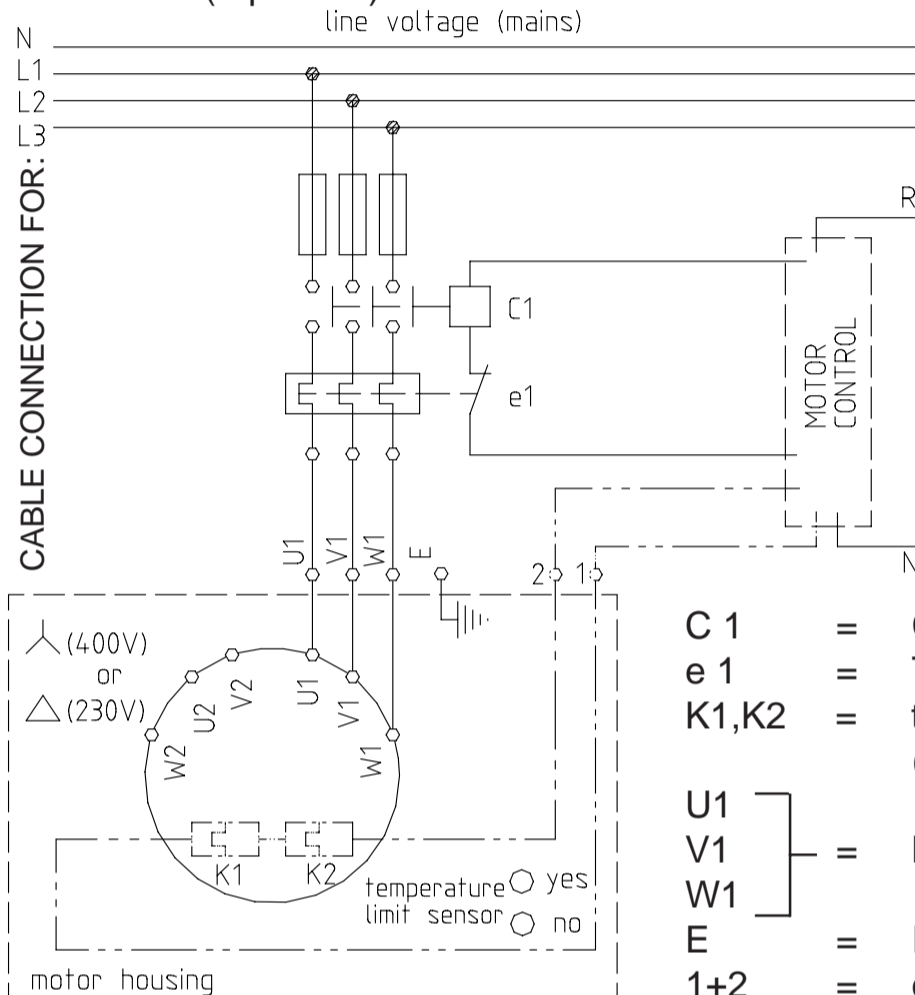

Fig. 2
For proper operation and protection of the pump, the control panel **must** contain the following components (see connection diagram in Fig. 2):
4.6.1 For three-phase motor (Fig. 2)